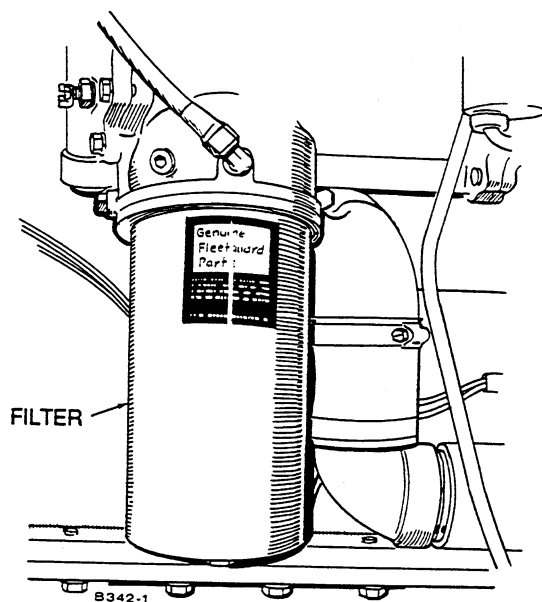

FIGURE 7. LUBRICATION OIL FILTER
3. Unscrew the oil filter and discard. See Figure 7.